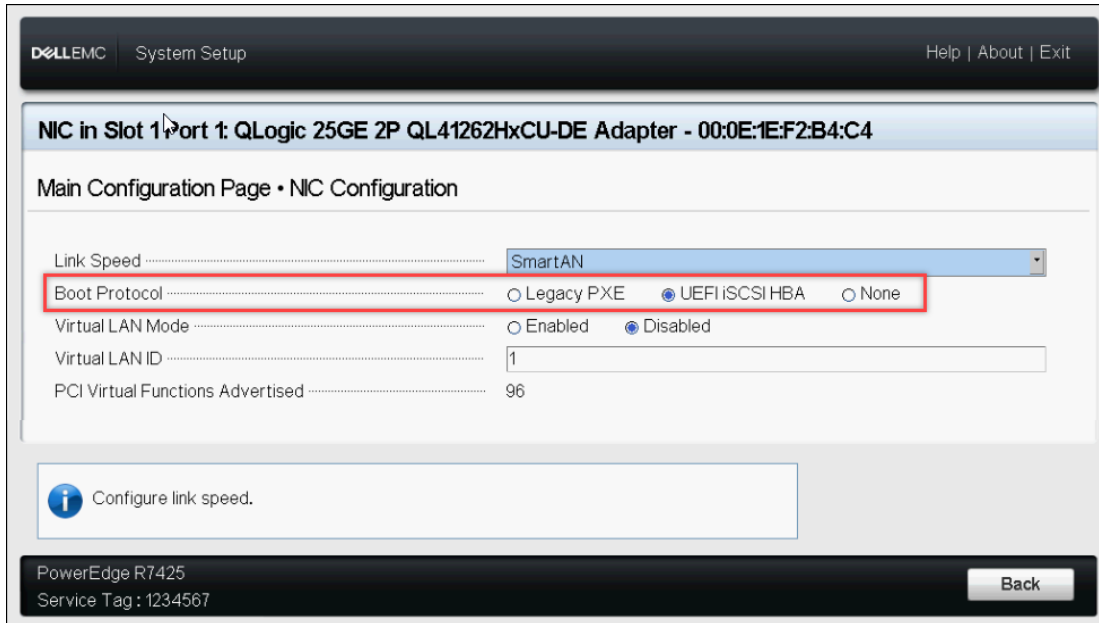

Figure 6-4. System Setup: NIC Configuration, Boot Protocol
1. On the NIC Configuration page (Figure 6-4), for the **Boot Protocol** option, select **UEFI iSCSI HBA** (requires NPar mode).